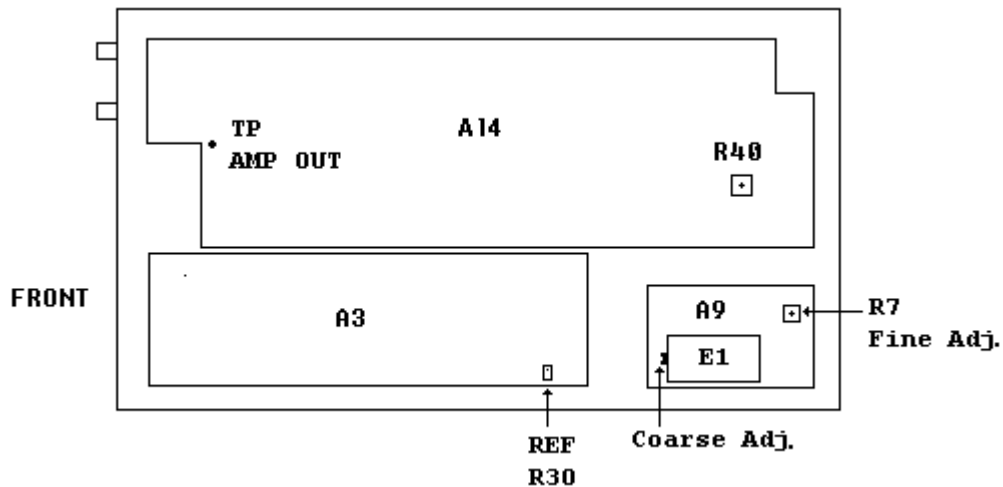

Figure 3. Test instrument - bottom view.
- (1) Disconnect TI rear panel **10 MHz OVEN OUTPUT** from **EXT REF IN** option 001 only.
- (2) Connect frequency counter **CHANNEL A** to TI rear panel **AUX 21-60 MHz**.
- (3) Press keys and enter values using **DATA** keys as listed in (a) through (c) below:
- (4) Adjust REF R30 (fig. 3) until frequency counter indicates 60.000000 MHz (R).
- (5) Disconnect frequency counter from TI rear panel **AUX 21-60 MHz**.
- (6) Connect frequency counter **CHANNEL A** to TI **SIGNAL**.
- (7) Enter **20 MHz** using **DATA** keys. Frequency counter will indicate between 19.99990 and 20.00010 MHz.
- (8) Disconnect frequency counter from TI.
- (9) Perform (10) through (14) below for option 001 only.
- (10) Connect time/frequency workstation **OUTPUT 1 MHz** to frequency difference meter **REF INPUT**.
- (11) Connect TI rear panel **10 MHz OVEN OUTPUT** to frequency difference meter **SIG INPUT**.
- (12) Adjust A9R7 Fine Adj. (fig. 3) and A9 Coarse Adj. (fig. 3) for a minimum indication on frequency difference meter.
- (13) Disconnect TI from frequency difference meter.
- (14) Reconnect TI rear panel **10 MHz OVEN OUTPUT** to **EXT REF IN**.